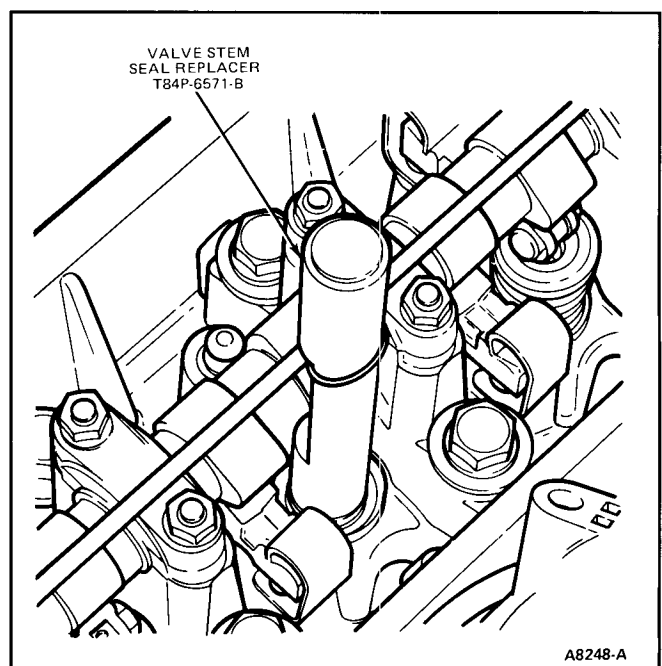

FIG. 17 Valve Stem Seal Installation
install rocker arm, making sure rocker arm is seated on pivot ball pin (Fig. 17).
1. Install a new valve stem seal using Tool T84P-6571-B, or equivalent (Fig. 17).
2. Install the valve spring, retainer and locks using Valve Spring Compressor Tool T84P-6513-C, or equivalent (Fig. 17).